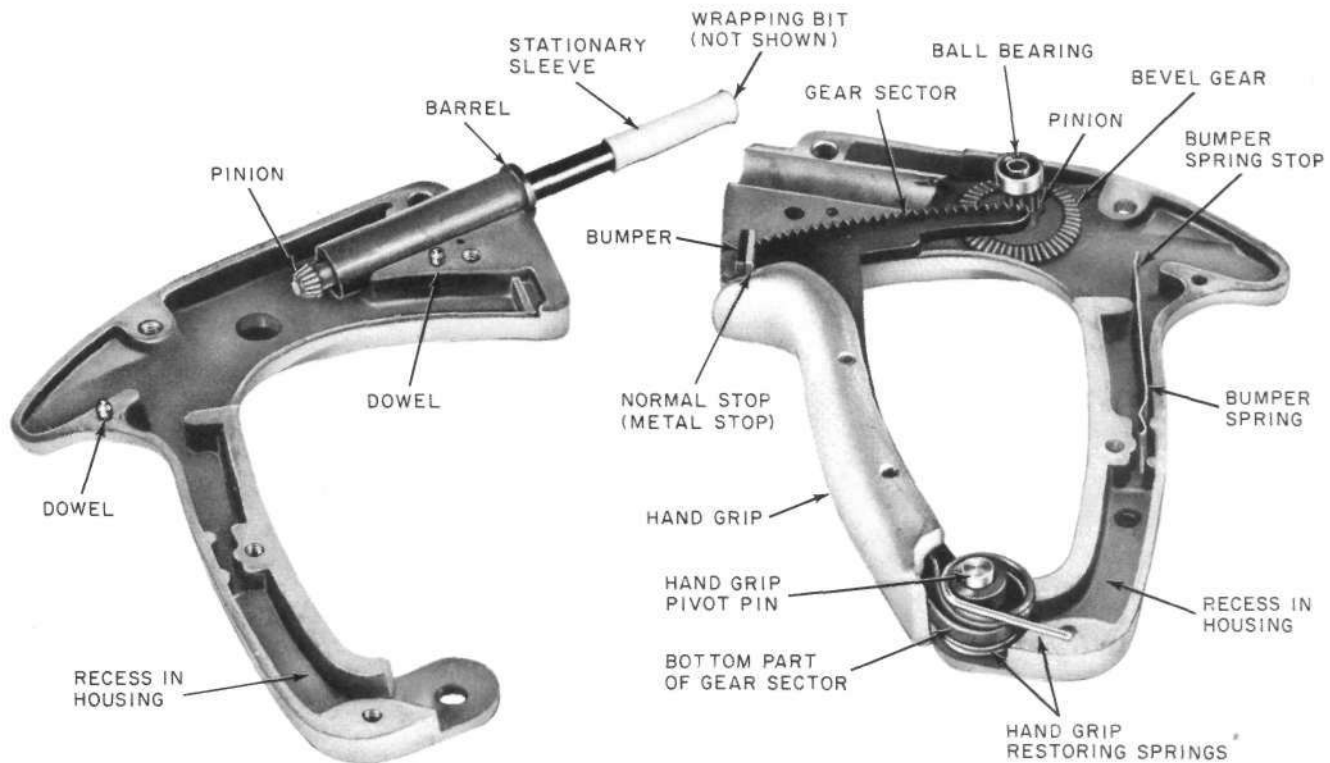

Fig. 5—KS-16363 Wire-Wrapping Tool—Interior View [Shown with KS-16363, L1 (Mfr Disc.) Barrel and Sleeve]
- (3) Carefully separate the two halves of the housing. If necessary, gently pry them apart with the 4-inch E screwdriver at the sections adjacent to the clamping screw hole and near the pivot pin. Take care not to burr the edges of the housing. If a burr should be formed, remove it using the KS-2663 file. As the two halves are separated, take care not to lose parts which may drop from the housing (stop, bumper, and bumper spring shown in Fig. 5).
- (4) Remove the metal stop, bumper, and bumper spring. Swing the hand grip aside sufficiently to clear the bevel gear and pinion and remove the gear, pinion, and ball-bearing assembly.
- (5) Clean the interior of both halves of the housing and the gears using a KS-2423 cloth moistened with KS-7860 petroleum spirits. Then wipe the parts with a clean, dry cloth. Clean the grease from both ball bearings with an R-2969 brush and petroleum spirits.
- (6) Apply grease to both ball bearings using the 353C grease gun equipped with the 570A nozzle.
- (7) Remount the bevel gear, pinion, and ball-bearing assembly, as covered in (8).
- (8) Position the gear, pinion, and ball-bearing assembly in the portion of the housing that does not contain the two dowels with the face of the gear upward, as shown in the right half of Fig. 5. This positioning of the gear is necessary in order that the wrapping bit will rotate in
- (9) Mount the metal stop and bumper, making sure the stop is toward the end of the gear sector on the hand grip. Mount the bumper spring. (See Fig. 5.)
- (10) Apply grease to the teeth of the gear sector, the bevel gear, and bumper spring using the 353C grease gun and 570A nozzle.
- (11) Apply oil to the hand-grip pivot pin using the 486A oil can.
- (12) Place the right half of the housing (Fig. 5) on a flat surface. Make sure the hand-grip restoring springs are positioned on the hand grip at the pivot pin as follows. The slightly offset end of both springs should be in their respective recesses in the hand grip and should lie against the center section of the hand grip. The straight end of the inner restoring spring should be in the recess in the right half of the housing. With the other parts of the tool positioned, as covered in (8) and (9), hold the left half of the housing (Fig. 5) in a tilted position so the straight end of the outer restoring spring lies in the recess in this half. Then, keeping the end of the spring in the recess, carefully position this half of the housing on the other half so the hand-grip pivot pin fully enters its hole and the dowels in one half of the housing enter their holes in the other half. Insert and moderately tighten all of the housing screws and then securely tighten the screws. This is necessary since fully tightening one screw with the others loose may cause binding of the hand grip.
- (1) If this requirement is not met, check for freedom of operation covered by requirement 2.06.
- (2) If the freedom of operation requirement is met but requirement (a) is not met, replace the restoring springs.
- (3) If the freedom of operation requirement is met but requirement (b) is not met, separate the halves of the housing, as covered in paragraphs 4.02 and 4.03(2) and (3). Check the position of the bumper spring and, if necessary, position it as shown in Fig. 5. If the requirement still is not met, replace the bumper spring. Assemble the two halves of the housing, as covered in paragraphs 4.02 and 4.03(12).